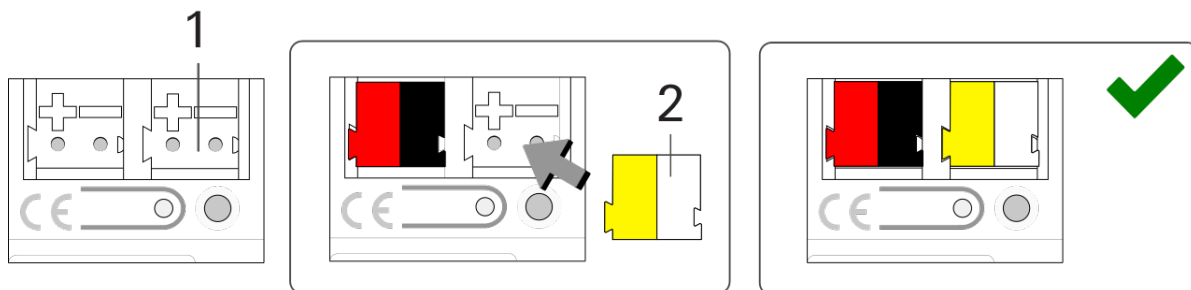

Figure 10: Connect the power supply
3. Connect the external power supply to the power supply terminal (figure 10, pos. 1) using the supplied power connection terminal (figure 10, pos. 2). Polarity: left/yellow: "+", right/white: "-".
- a. Attach the power connection terminal (figure 10, pos. 2).